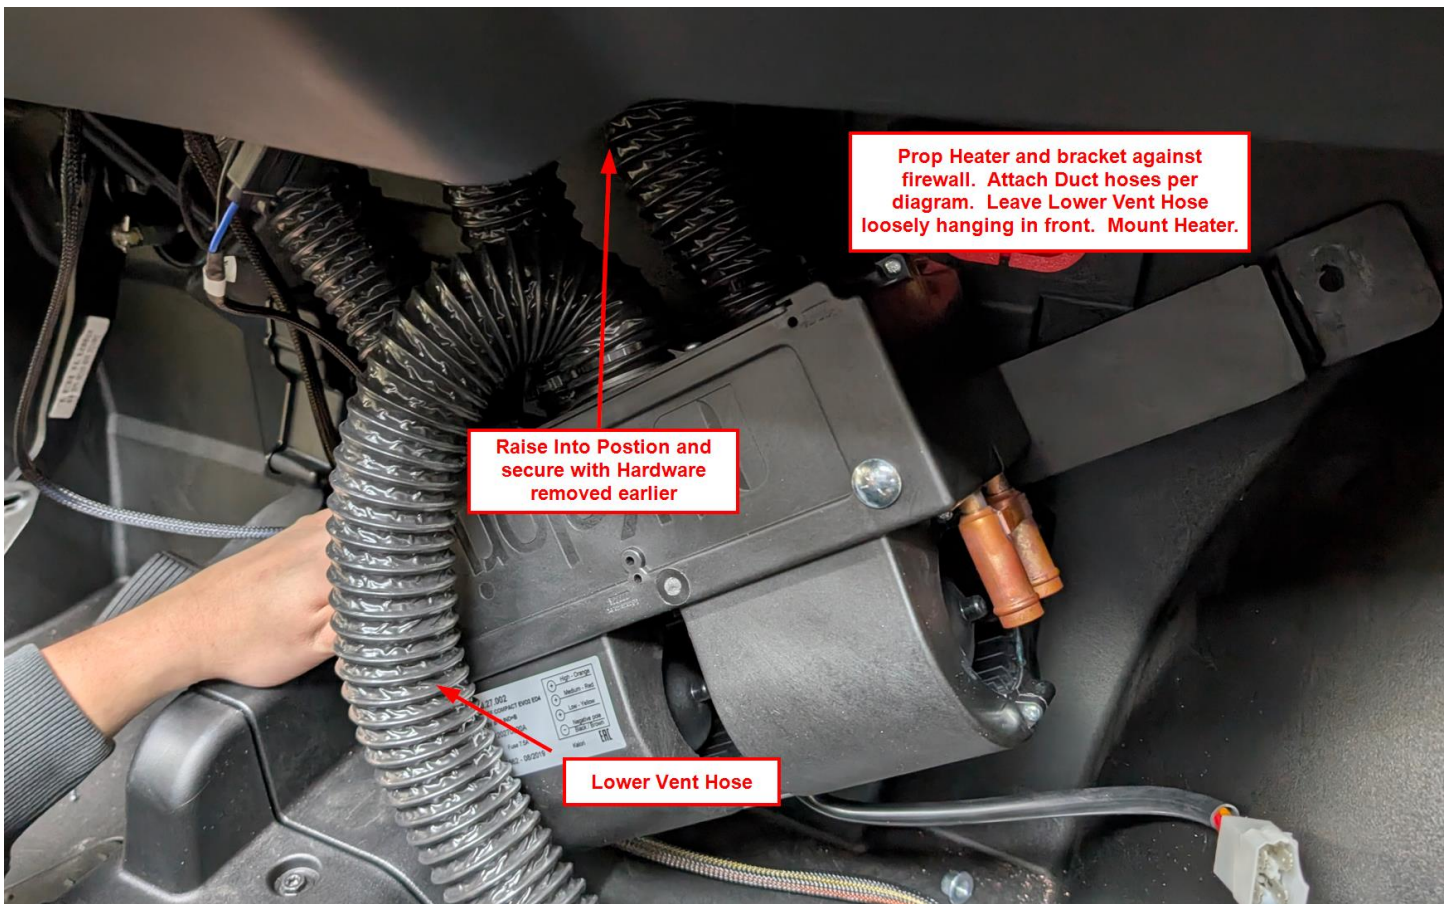

Figure 11
- b. Position the heater as shown in Figure 11. Attach the 2" Duct Hoses to the ports and secure with zip ties.